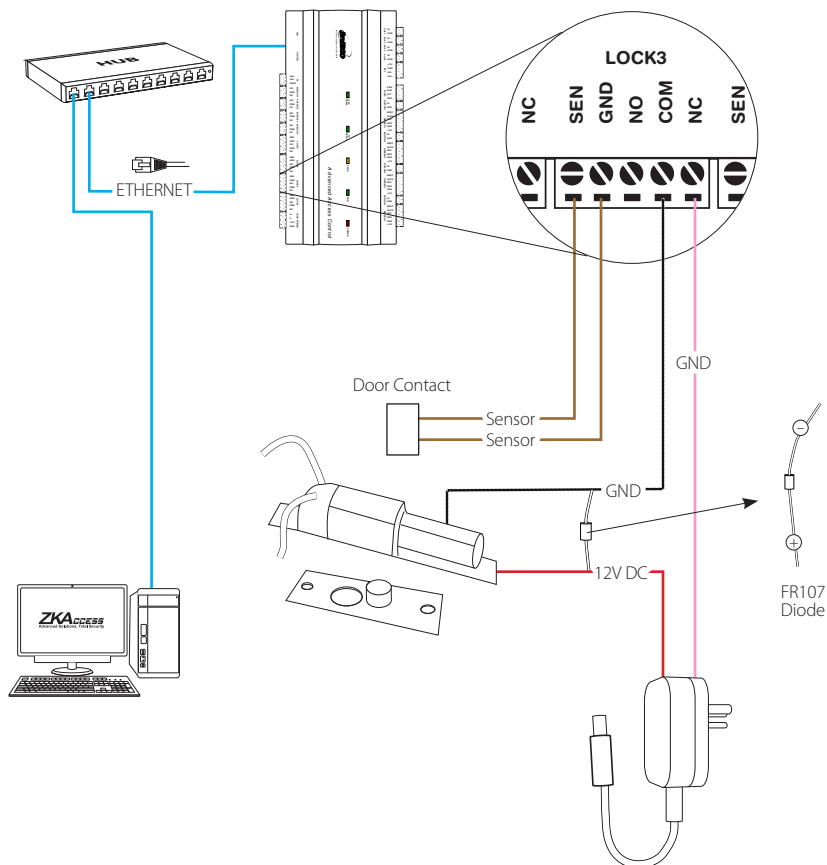

Figure 24
4. Connect the lock as show in the diagram, (see figure 24)